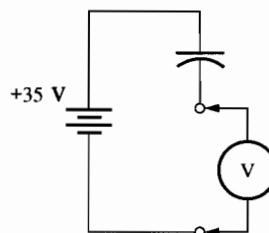

Figure 18–1
A capacitor that passes the ohmmeter test may fail when working voltage is applied. A voltmeter can be used to check a capacitor with voltage applied. The voltmeter is connected in *series* with the capacitor, as indicated in Figure 18–1. When voltage is first applied, the capacitor charges making it appear shorted. As it charges, voltage will appear across it, and
2. Test each capacitor using the voltmeter test as illustrated in Figure 18–1. Large electrolytic capacitors may appear to fail this test. Check the voltage rating on the capacitor to be sure it is not exceeded. The working voltage is the maximum voltage that can safely be applied to the capacitor. Record your results in Table 18–1.
3. Connect the circuit shown in Figure 18–2. The switches can be made from wire. Leave both switches open. The light-emitting diodes (LEDs) and the capacitor are both polarized components—they must be connected in the correct direction in order to work properly.